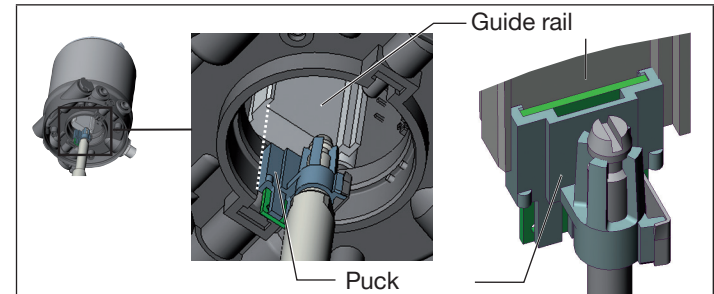

Fig. 6: Aligning the puck
2. The connection pieces of the control unit enter into the pilot air connections of the actuator (see “Fig. 6”).